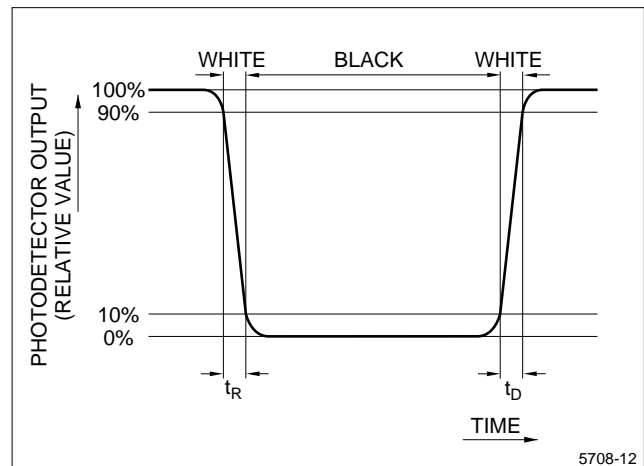

Figure 11. Definition of Response Time
- The Response Time is measured as shown in Figure 11 by switching the input signals for 'black' ON and OFF.